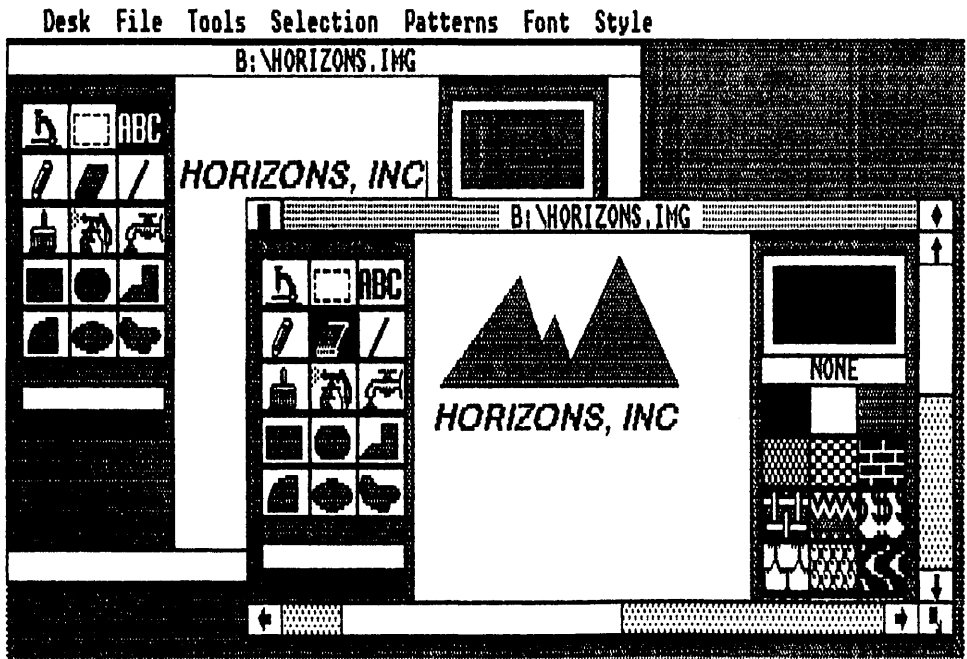

Fig. 3-14. Two different GEM Paint windows may be opened at the same time for exchanging pictures between them.
**Open . . .** Command is used for copying graphics between two different pictures (Fig. 3-14).